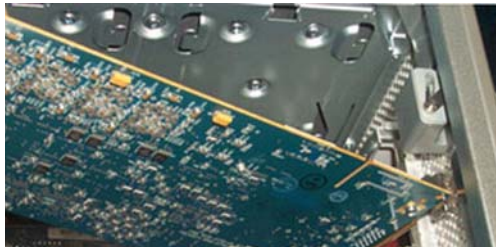

Figure 2. Holding the card above the slot at an angle
- Hold the card above slot 2 at a slight angle so that the front of the card is higher than the back of the card (where the card's DigiLink connector is located), as in Figure 2.